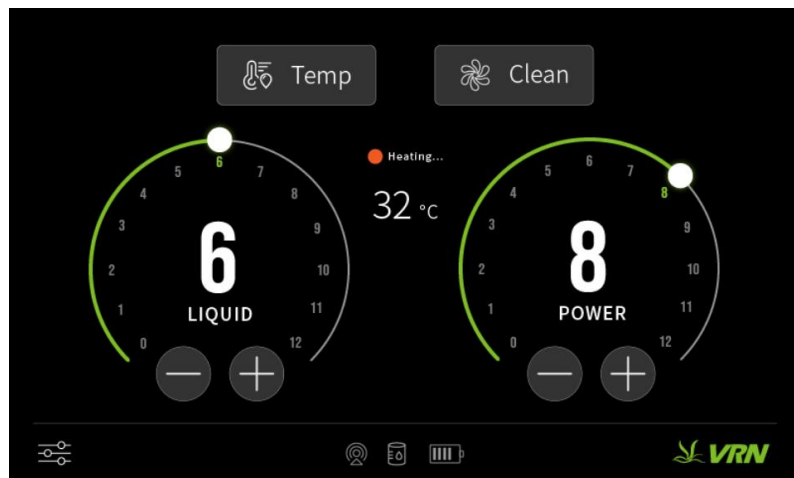
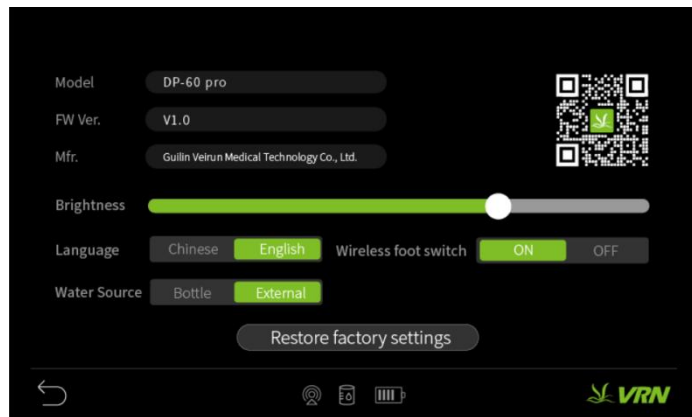

Figure 8 Touch screen user interface
Figure 9 Setting
4. Insert the wired foot switch plug into the wired foot switch interface; for wireless foot switch, see (Figure 9, Figure 13).
① Click the "Settings" icon on the user interface to enter the "Function Settings" interface (see Figure 9 for details).
② Select language according to your needs. Optional languages: "Chinese" and "English".
③ Choose a water source according to your needs. Two water sources optional: "water bottle" and "external water supply".
④ If you choose to use a wireless foot switch, start pairing. (It is paired before leaving the factory and no settings are required. If you need to replace a wireless foot switch, please refer to Chapter 2.8 for details)
⑤ Restore factory settings: After clicking "Restore factory settings", all system parameters will be restored to the factory settings.
⑥ If you need to turn the heating function on or off, click "Temperature" on the main interface (Figure 8). Level 0 turns off the heating, levels 1, 2, and 3 turn on the heating state, the temperature increases. Level 3 is the maximum heating level (Figure 10).